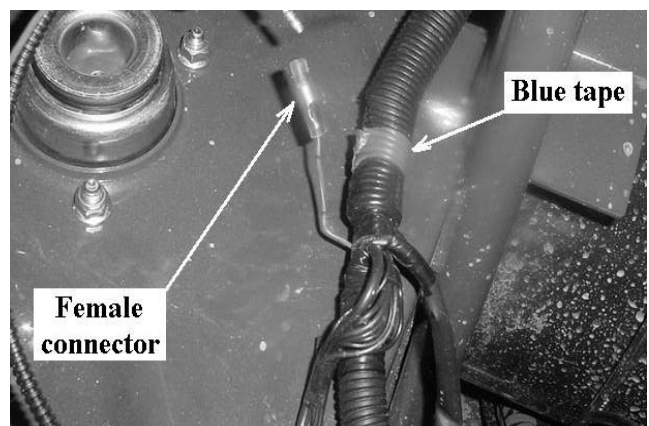

Figure 15
7. Connect the 20 gauge wire for the vehicle's ignition switch to the 20 gauge wire located on the wiring harness wrapped in blue tape (at the front of the vehicle), Figure 15.